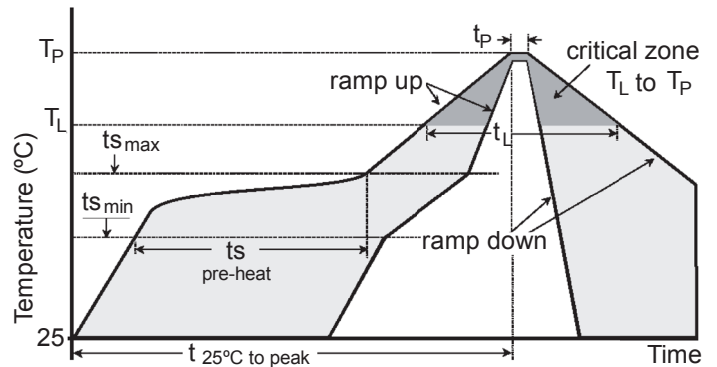
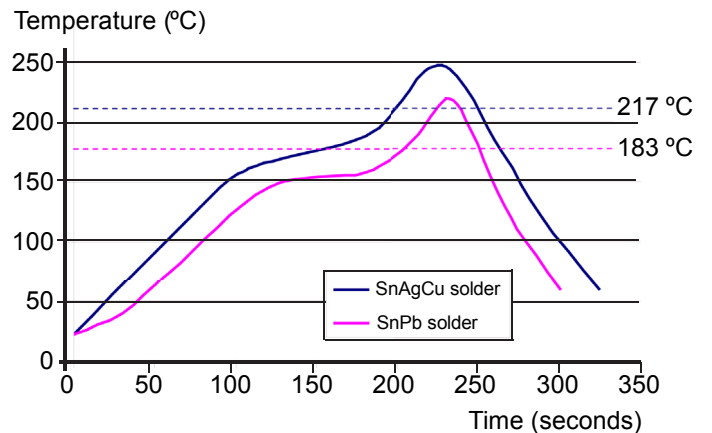

Figure 12 Typical reflow profile
Figure 13 Typical solder reflow profile
Table 1 and Figure 12 show typical reflow profiles and conditions for lead-free and eutectic tin-lead solders. Follow the solder paste manufacturer’s guidelines and place the profile probe on the PCB close to the device. Figure 13 shows example reflow profiles for lead-free (Sn96.5Ag3Cu0.5) and tin-lead (Sn63Pb37) solders.
* see Figure 12